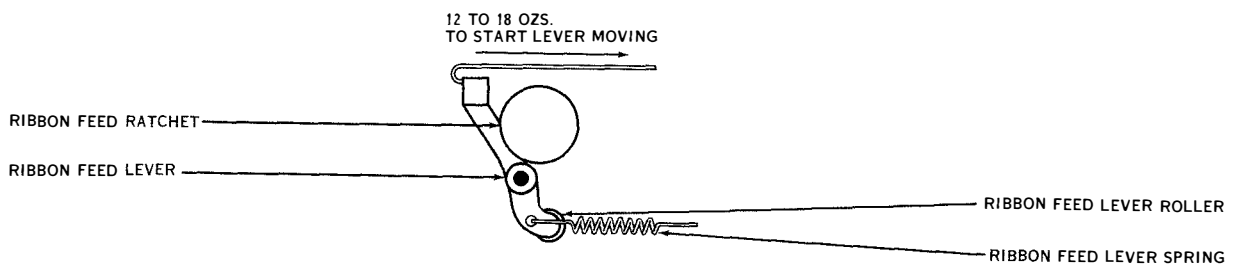

Figure 7-48. Ribbon Feed Lever Spring Tension
(42) **RIBBON FEED LEVER SPRING TENSION.** (See figure 7-48.)—A tension of 12 to 18 ounces should be required to start the ribbon feed lever moving. To check, position the ribbon feed lever roller in the plunger indent and hook a 32-ounce scale over the top of the ribbon feed lever. Pull horizontally toward the front of the unit and note the tension as the lever starts to move.